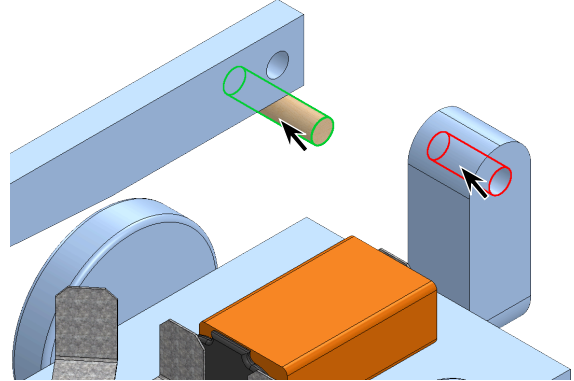

Fig. 13
Step 4. Click **cylindrical face of Axle** and **cylindrical face of hole in Arm**, Fig. 13.